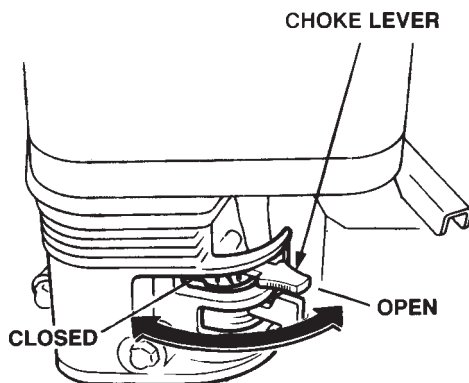

Figure 12. Choke Lever
3. Place the **Choke Lever** (Figure 12) in the "OPEN" position.
6. If the engine has started, slowly return the choke lever (Figure 12) to the **CLOSED** position. If the engine has not started repeat steps 1 through 5.